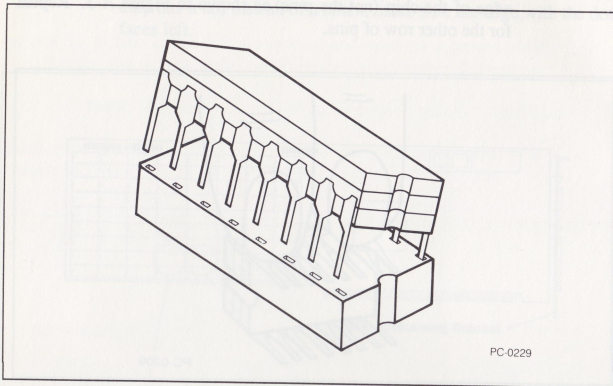

Figure A-4 *Inserting pins halfway in one side of the socket*
- Carefully insert the pins on one side of the chip halfway into the holes on the same side of the socket. See Figure A-4.